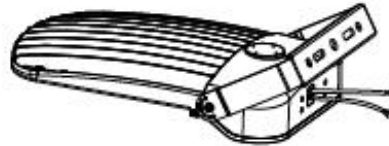

Figure 16
2. Next, fasten the two small screws to complete yoke mount attachment (Figure 16).